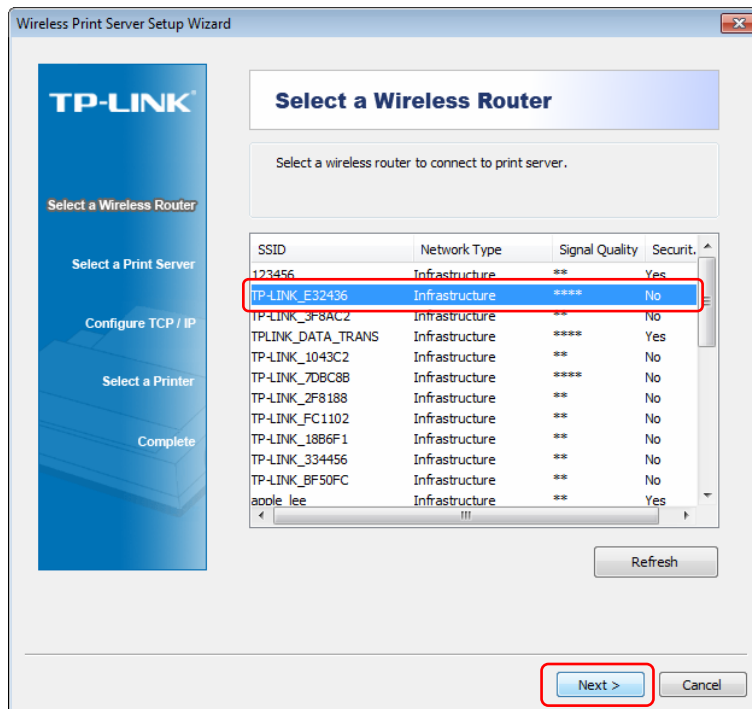

Figure 3-4
- Then the Wireless Print Server Setup Wizard will appear as shown in Figure 3-4. Select the wireless router to connect to the print server and click “**Next**”.